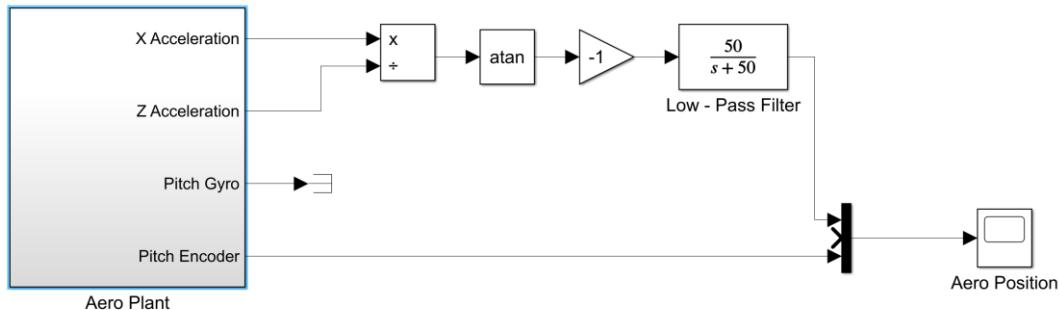

Figure 3: Calculating angle from acceleration
1. Modify the QUARC model to add a Divide, Trigonometric Function as shown in Figure 3 to calculate the Aero body pitch from the accelerometer readings using equations from the concept reviews highlighted in the **Measurement and Filtering Application Guide**, and compare the calculated angle to the encoder measurement. Note that since the Y-axis orientation opposes that of the pitch encoder, the gyroscope readings must be given a gain of -1 as well.